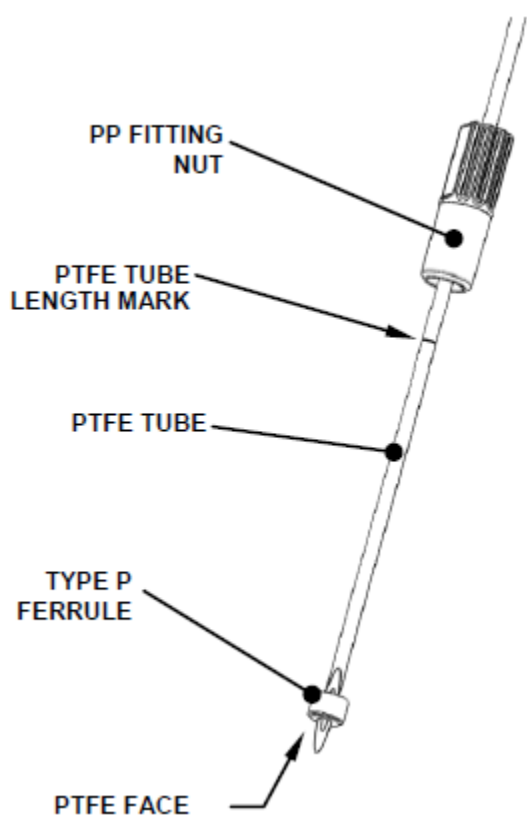

Figure O-12: Preparing the Tube
5. Using a scalpel, cut the free end of the tube to form a point approximately 10 to 15mm long. Thread the cut (pointed) end of the tube through a PP Fitting Nut. Then, thread the cut (pointed) end of the tube through a Type P Ferrule ensuring that the Ferrule is orientated as shown with the PTFE face pointing up the tube. With a pair of pliers, grip the pointed end of the tube and pull it through the Ferrule until it has reached the line on the Tub (Figure O-12).